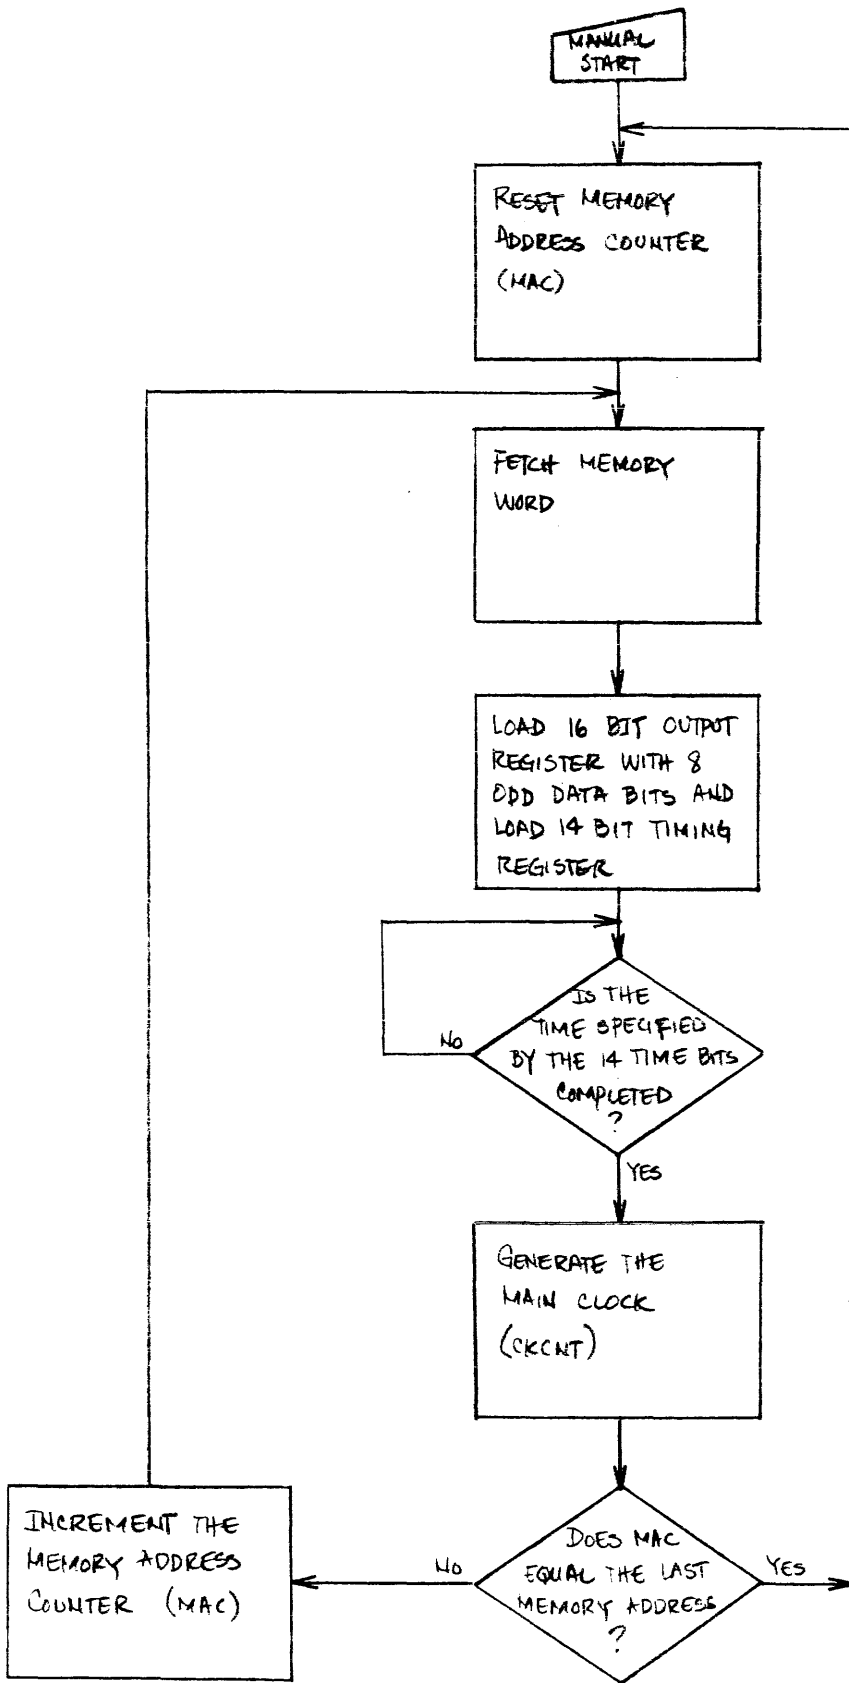

FIGURE 1
I. TIMING SIMULATOR MACHINE CYCLE (Reference Block Diagram 648-001, Timing Simulator Machine Cycle Flow Chart Figure 1, and the Logic Block Diagram).
These generator mode conditions will cause the RS-648 to cycle indefinitely as defined by the Timing Simulator Machine Cycle Flow Chart Figure 1. Note that although Figure 1 depicts a sequential set of events, the RS-648 actually executes many of these events in parallel. This Flow Chart gives visual insight into the machine operation; it should be kept in mind when reading the following write-up.